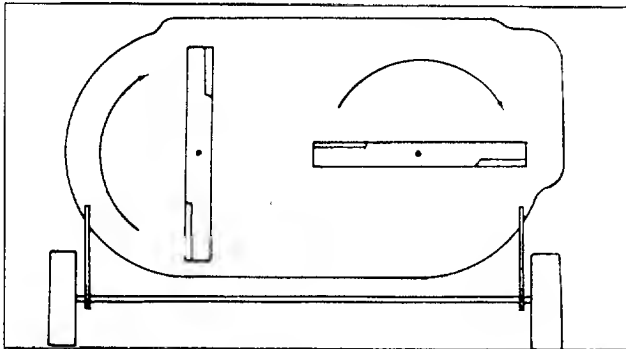

FIGURE 23. BLADE TIMING
- Step 4. Tip the deck up and rotate the blades until they match figure 23.